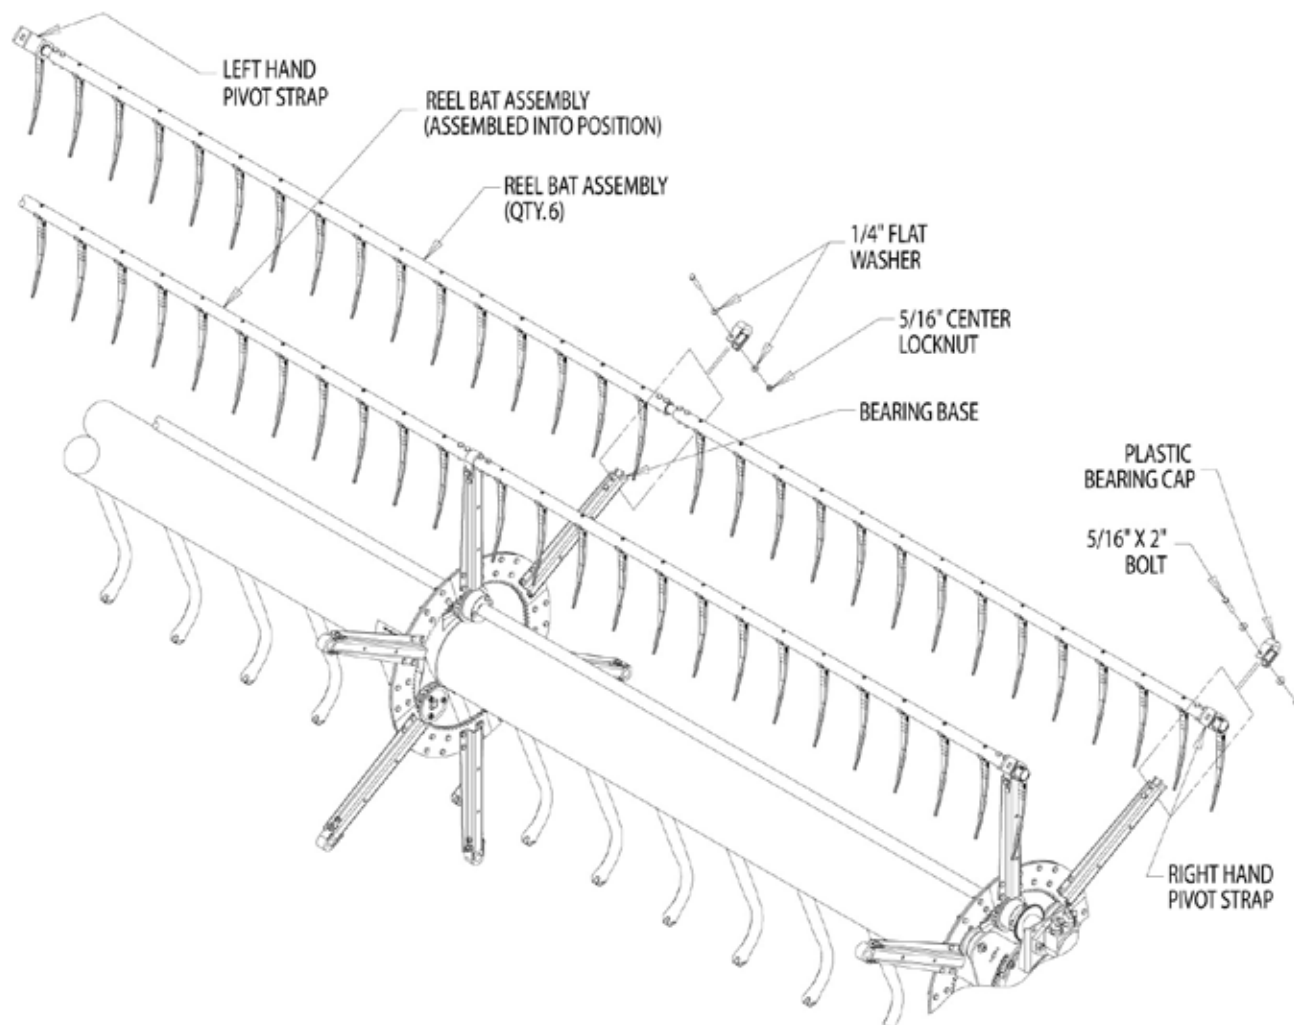

Figure 20, Reel bat installation
- A. Determine the correct orientation of the reel bat. The RH and LH pivot straps point to the rear of the Air Reel (Figure 20).
- C. Reattach the plastic bearing caps by installing one 5/16" X 2" bolt, one 5/16" center locknut and two 5/16" flat washers per each reel arm (Figure 20).